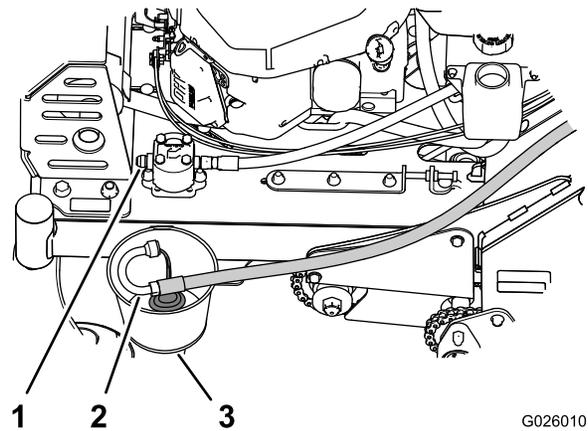

Figure 56
3. At the front of the auxiliary-hydraulic pump, remove the inlet hose from the hydraulic fitting in the pump, place the end of the hose in a drain container, and allow oil to drain (Figure 56).